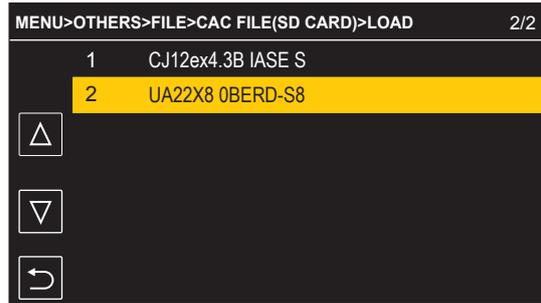

Fig. 2
- 3 Select the file number to load. (Fig. 2)